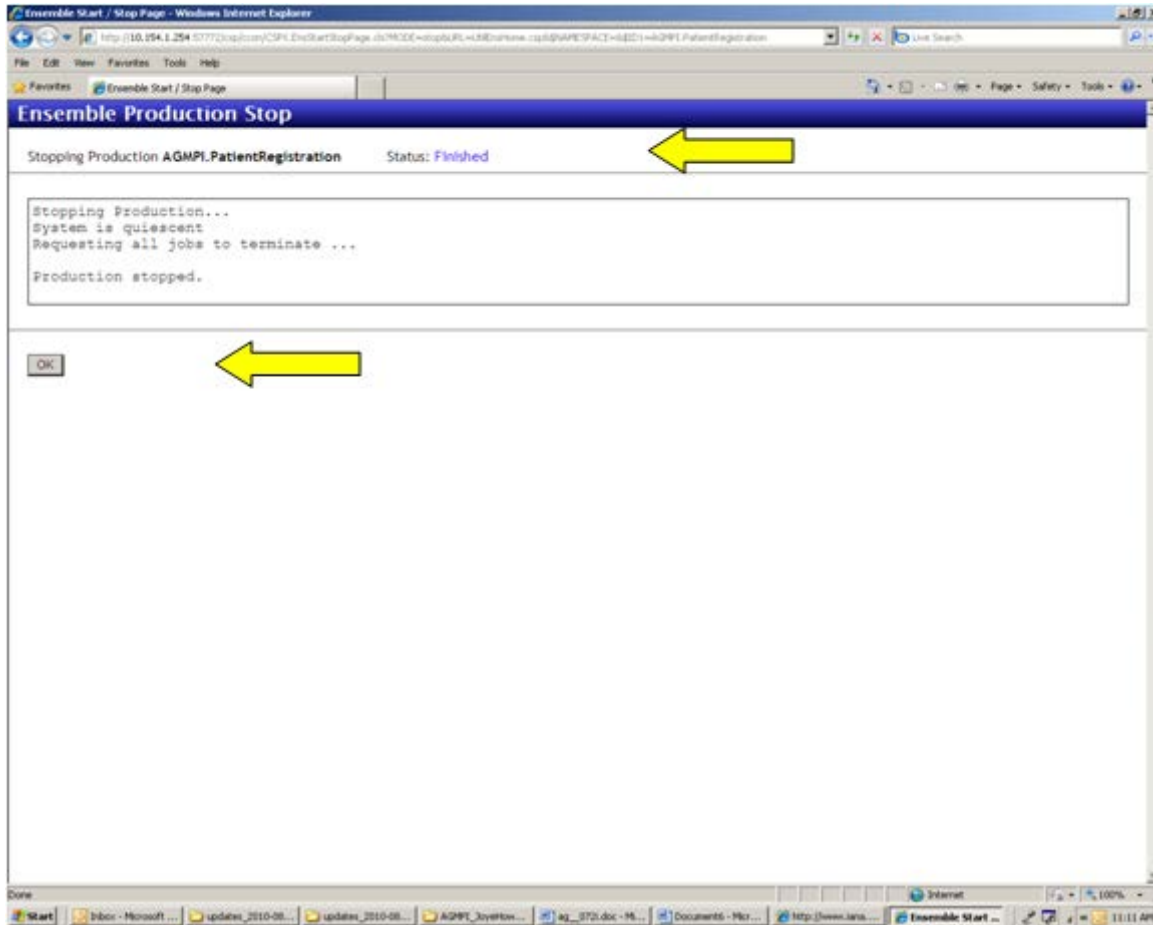

Figure 4-6: Ensemble Production Stop page
**Note:** Detailed instructions for configuring a production using the configuration diagrams are found in the *Patient Registration MPI Interface/Ensemble (AG) Installation Guide and Release Notes*.
2. In the confirmation dialog box, click **Yes** to display the **Ensemble Production Stop** page, as shown in Figure 4-6, including the name of the production, its startup status, and any messages associated with production shutdown.